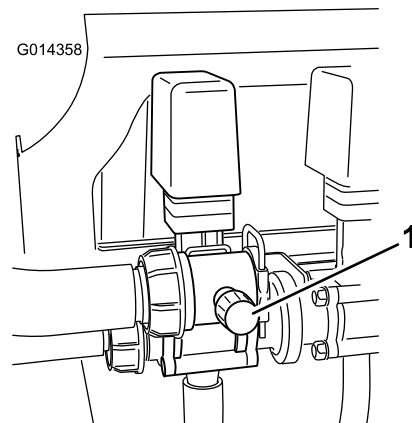

Figure 25
8. Adjust the agitation bypass valve (Figure 25) on the backside of the agitation valve until the pressure reading on the gauge is 689 kPa (100 psi).